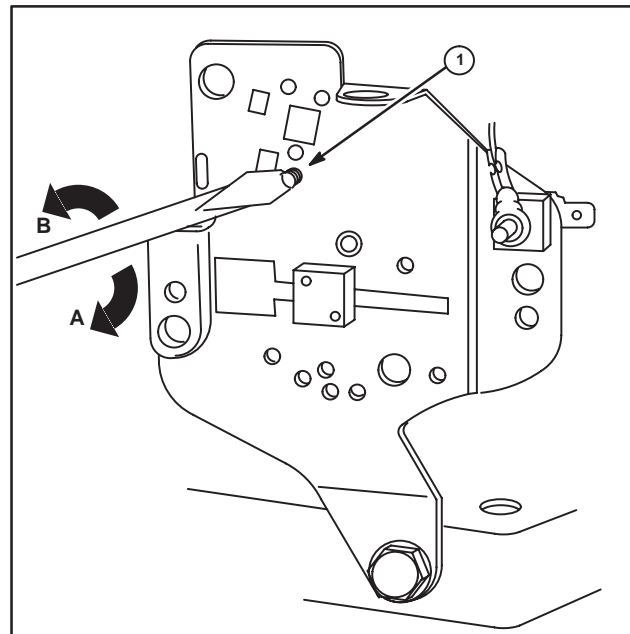

Fig. 31
Adjust Governed Idle Rack and Pinion Control Horizontal Crankshaft Models, Fig. 31
- Hold throttle in closed position with finger, adjust idle speed screw (1) to 1550 RPM, ("A" to increase, "B" to decrease).
- Set remote control to 1750 RPM. Turn screw in until it contacts remote control lever, Fig. 31.